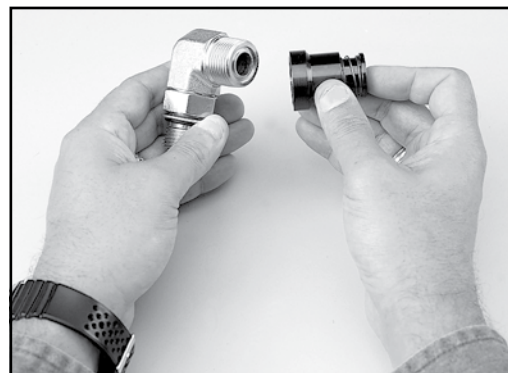

Fig. S25 – O-Ring installation using the CORG assembly tool
1. Ensure that the seal is properly installed in the groove of the face seal. Parker provides Seal-Lok fittings with pre-installed trap seals on the groove of the face seal. However, if the seal is being replaced, standard round O-Ring face seal O-rings can be found on page N4, in section N. Since Seal-Lok is machined with the Captive O-ring Groove (CORG), it is recommended that a CORG assembly tool be utilized, as shown in Fig. S25. To properly use the assembly tool, follow these steps